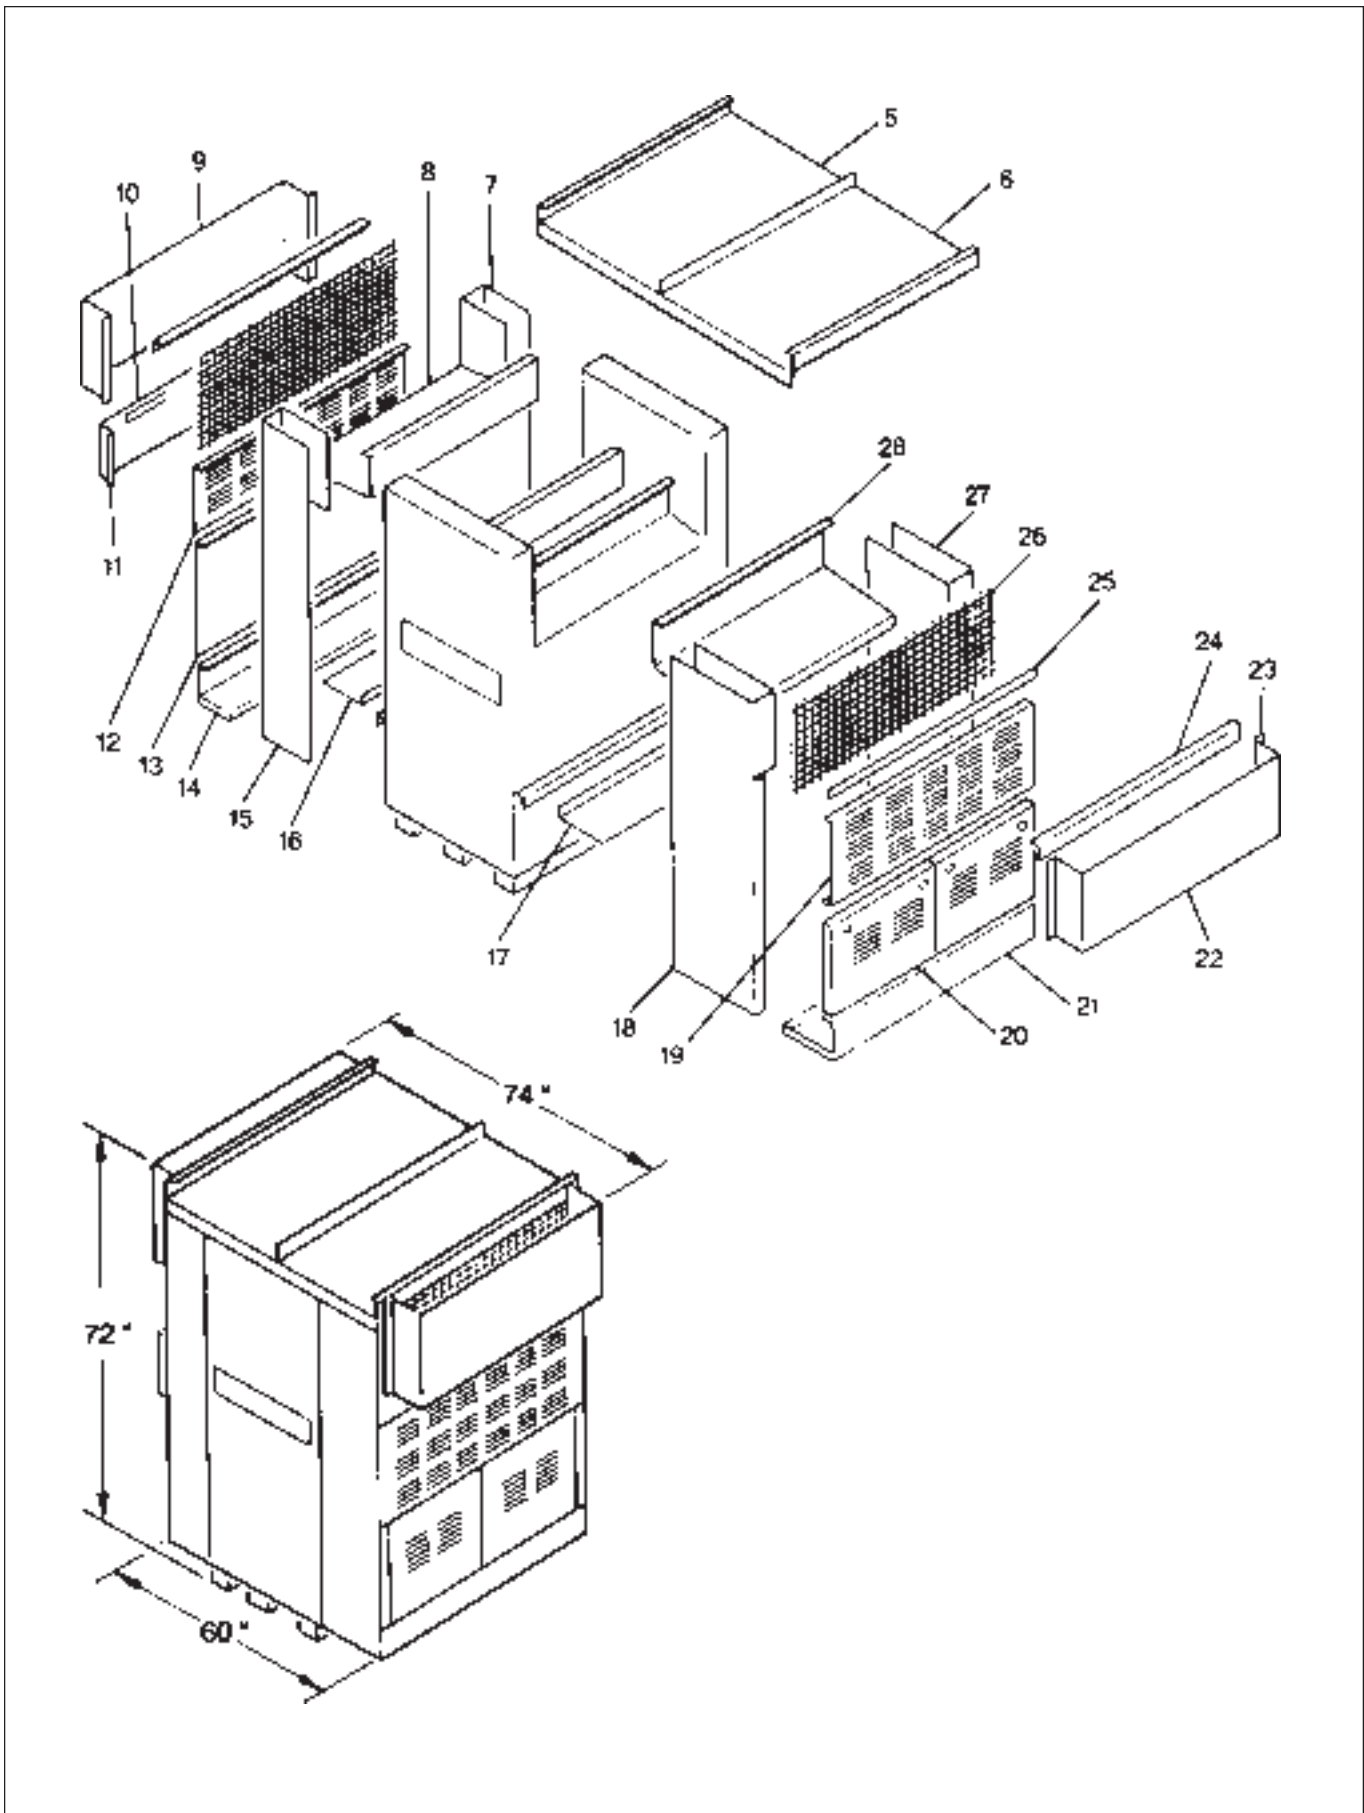

Figure 17. Outdoor Parts Identification.
Figure 17 shows the conversion completed.
#### 6A-2. SECTION II: (See Figure 17)
**OUTDOOR KIT PARTS LIST (see Figure 17)**